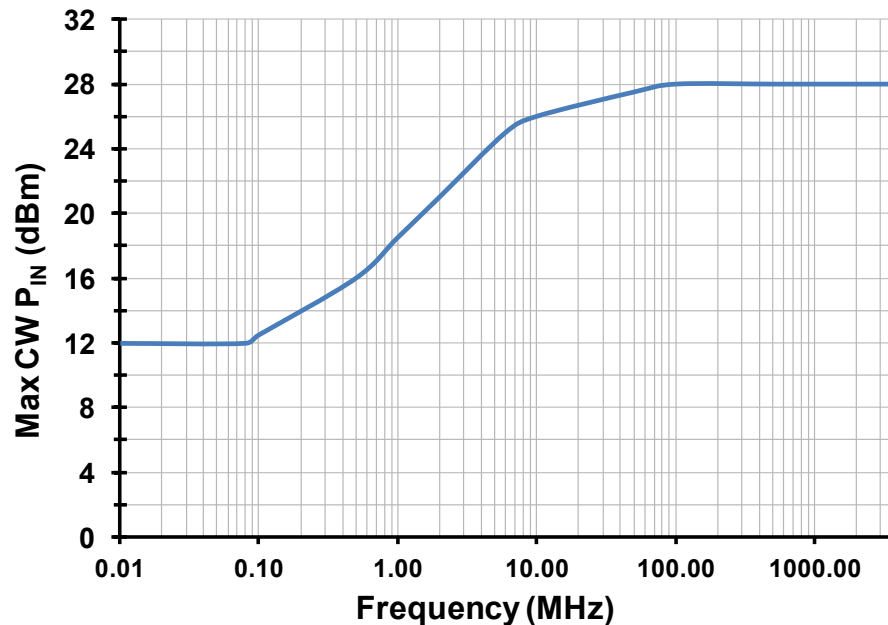

Figure 1. Maximum Operating RF input power vs Input Frequency
- Note 3: The input 0.1dB compression point is used as a linearity figure of merit. The recommended maximum input power is specified as the lesser of the two values from RF CW Power (Figure 1) and the RF Average Power (Recommended Operating Conditions Table).
Note 3: The input 0.1dB compression point is used as a linearity figure of merit. The recommended maximum input power is specified as the lesser of the two values from RF CW Power (Figure 1) and the RF Average Power (Recommended Operating Conditions Table).